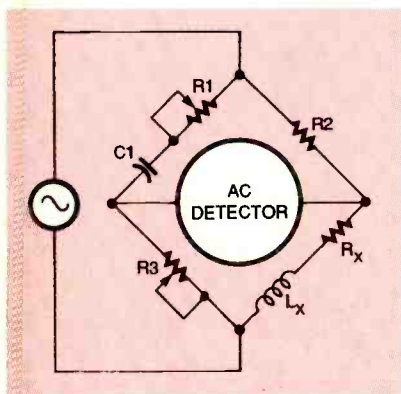

FIG. 4—THE HAY BRIDGE can measure the values of high-Q coils.
photo of the board shown in Fig. 4.
FIG. 4—PROTOTYPE CROSSOVER BOARD. The two RCA output jacks are mounted on the underside of the board, and the electrical connections are made by soldering the jack leads to the two wire jumpers that span the board.
*opposite-angle bridge*), shown in Fig. 4. Both operate on the principle of balancing the inductive phase shift of the unknown inductor  $L_x$  against a capacitive shift of the same magnitude in the opposite arm of the bridge.